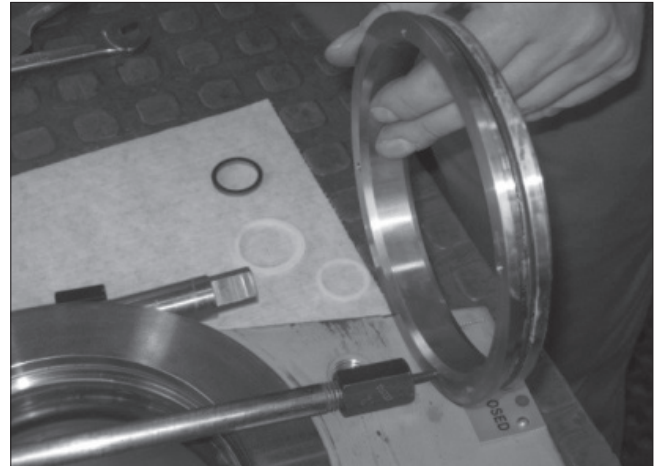

Fig. 30 Seal ring with O-ring
- The sealing element (320) and the O-ring seal (304) can now be replaced (see fig. 30 – 32). Before the new seals are mounted, the sealing groove (101) and the seal ring (301) must be cleaned carefully. In order to prevent damage to the seals, care is advised when replacing the seal ring.